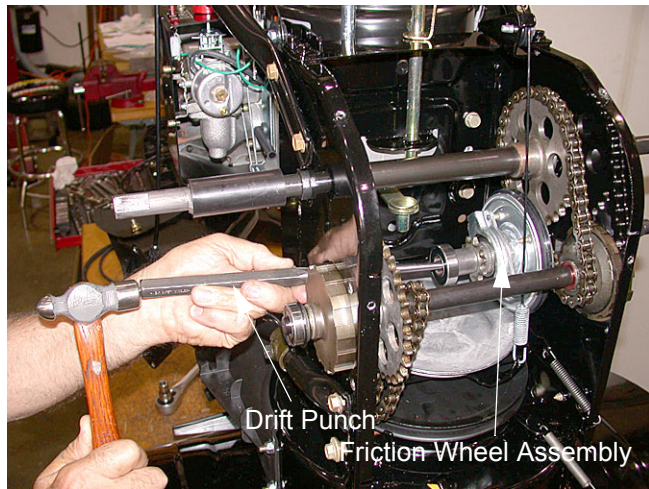

Figure 22
- 10.9. Holding the friction wheel assembly, slide the hex gear shaft to the right. See Figure 22.